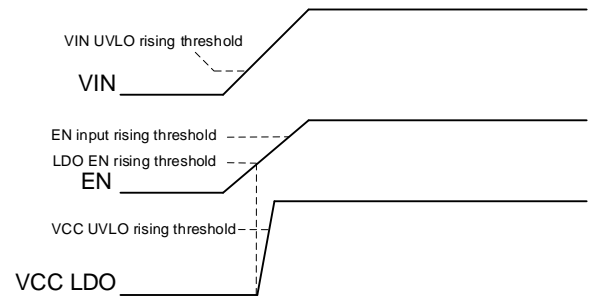
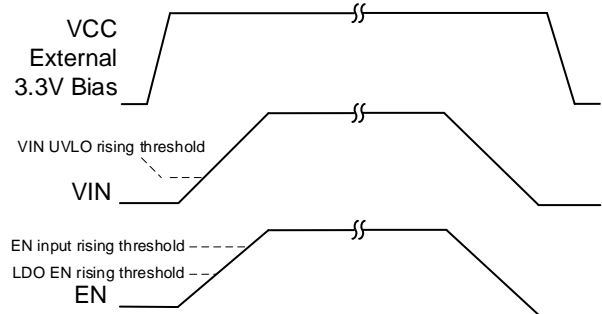
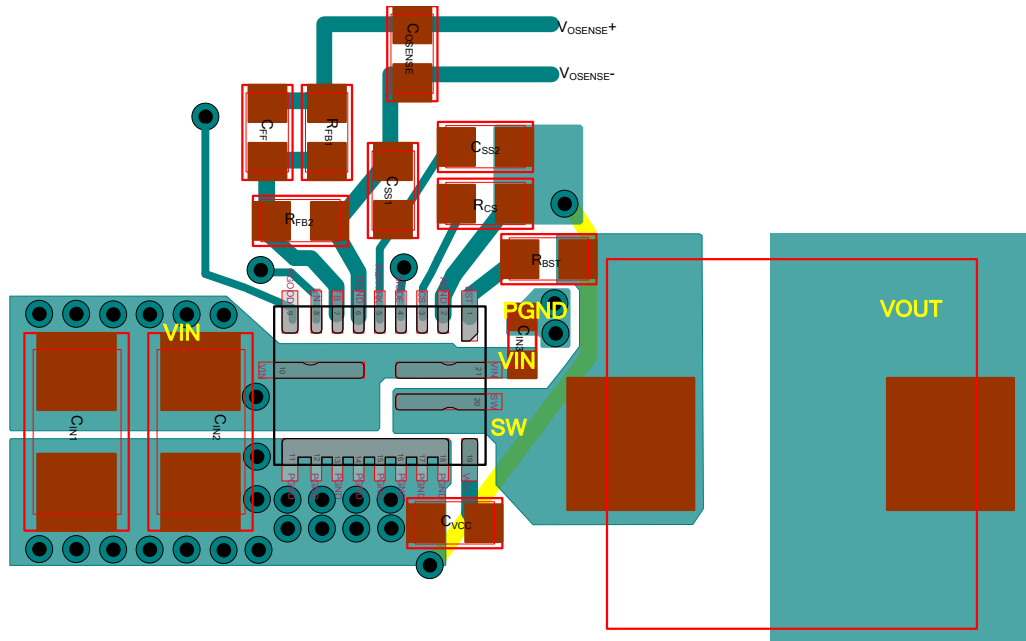

Figure 6—Start-Up Sequence with Internal LDO and Two EN Thresholds
Figure 7—Start-Up Sequence with External VCC Bias
Figure 8—Recommended PCB layout (QFN-21)
The MPQ8633A has two EN thresholds: the LDO EN rising threshold, and the EN input rising threshold. During start-up, once EN reaches the LDO EN rising threshold (typically 0.7V), the internal LDO is enabled, and VCC starts to increase. When EN reaches the EN input rising threshold, the part is enabled and starts to switch (see Figure 6).
Efficient PCB layout is critical for stable operation. For optimal performance, refer to Figure 8 and Figure 9 and follow the guidelines below:
| | | Added the Enable (EN) Thresholds and Power Sequence with External VCC Bias sections, as well as Figure 6 and Figure 7; made a minor formatting edit to the figure label for Figure 5 | 18 |
| | | Updated the figure numbering for Figure 8 (previously Figure 6) and Figure 9 (previously Figure 7) | 20–21 |